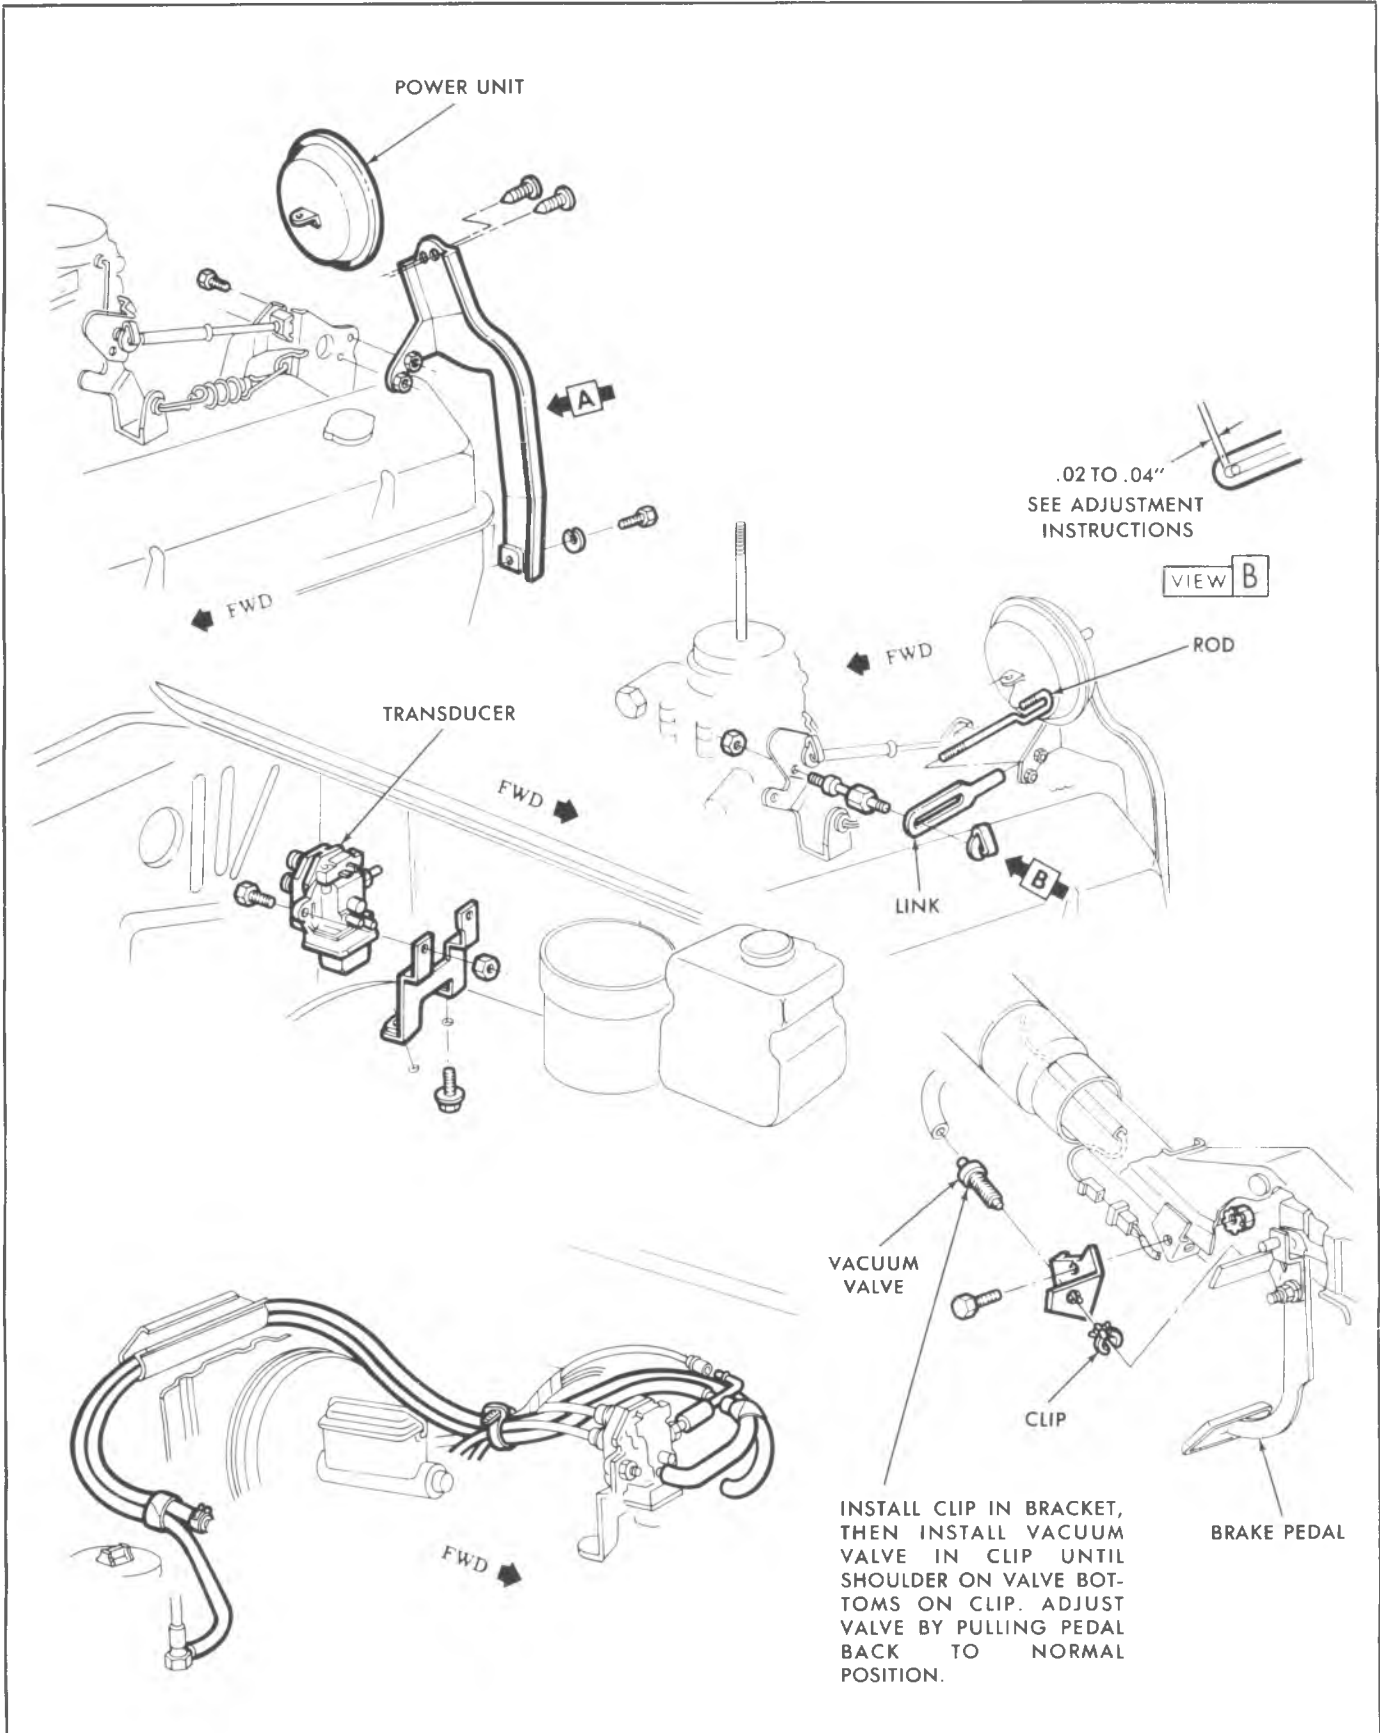

Fig. 9-6C--Cruise Master Installation--C-K Models
#### TRANSDUCER (Figs. 9-6C and 9-7C)
#### Adjustment (Fig. 9-6C and 9-7C)
2. With rod hooked through tab on power unit, adjust length by turning link onto rod until dimension shown in Figures 9-6C and 9-7C is obtained.
### BRAKE RELEASE SWITCHES (Figs. 9-6C and 9-7C)